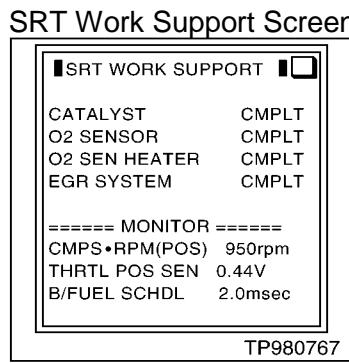

Figure 5
- a. Starting with the CONSULT Engine Menu, touch: SRT Confirmation, SRT Work Support, Main Signals. CKPS-RPM (POS), THRTL POS SEN, and B/Fuel SCHDL will automatically be selected as monitor items. (Figure 5)